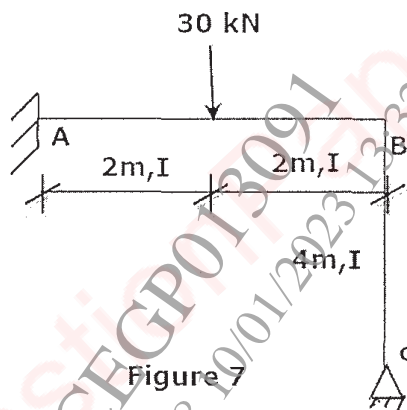

Figure 7
- b) Analyze bent ABC as shown in Fig. 7 by moment distribution method. [6]